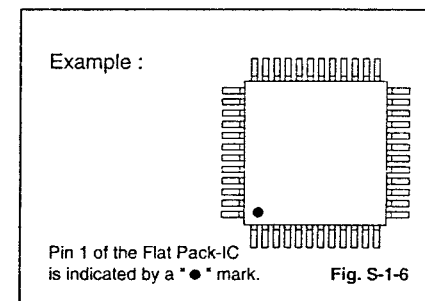
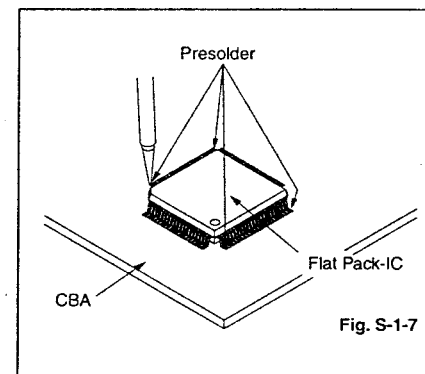

Fig. S-1-6
Fig. S-1-7
- The "●" mark on the Flat Pack - IC indicates pin 1 (See Fig. S-1-6). Make sure this mark matches the 1 on the CBA when positioning for installation. Then pre - solder the four corners of the Flat Pack-IC (See Fig. S-1-7).